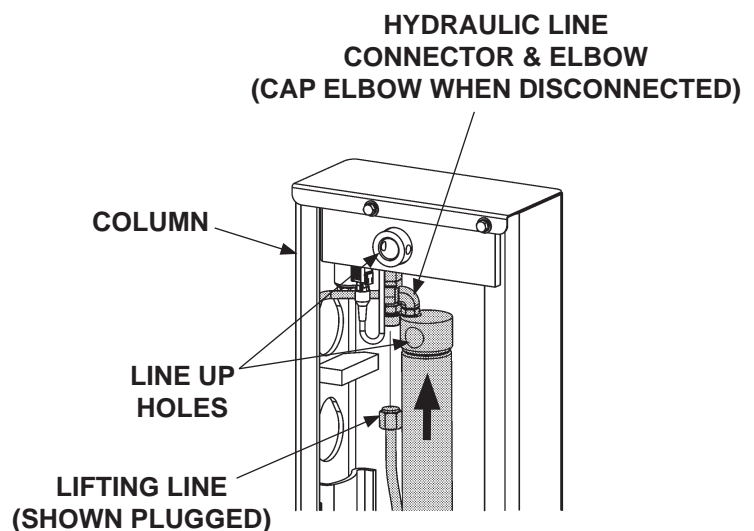

FIG. 35-2
25. Remove cap from elbow on top of cylinder (**FIG. 35-2**). Then re-connect power down line to elbow.
26. Remove plug from lifting line (**FIG. 35-2**). Then, raise the cylinder to line up the holes on cylinder and column.